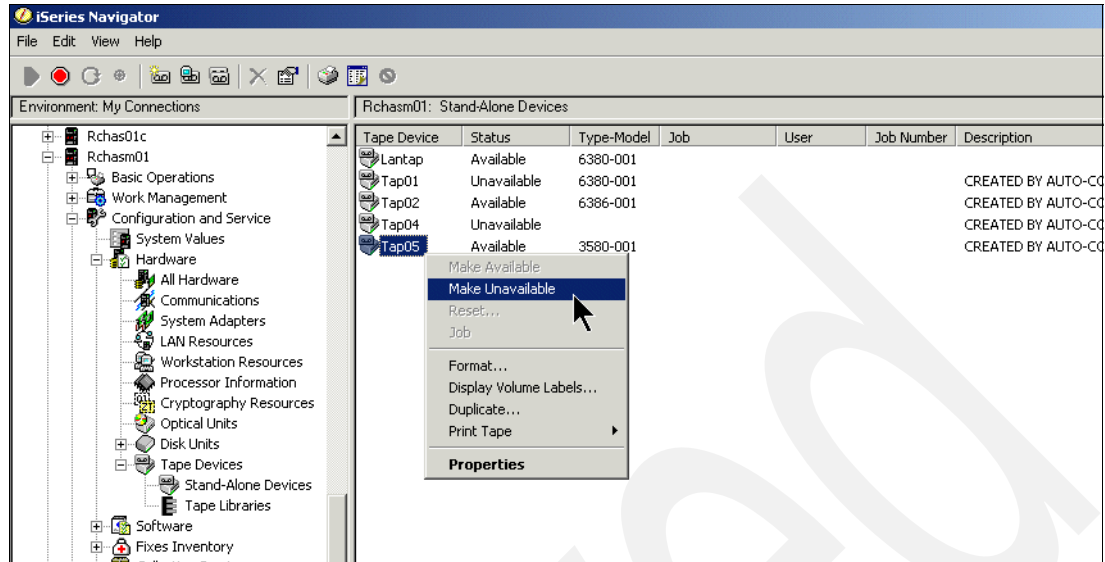

Figure 7-10 Making a tape drive unavailable in System i5 Navigator
- c. Click **Stand-Alone Devices** and then right-click the tape device you want to transfer control of to Windows. Select **Make Unavailable** as shown in Figure 7-10 on page 296.